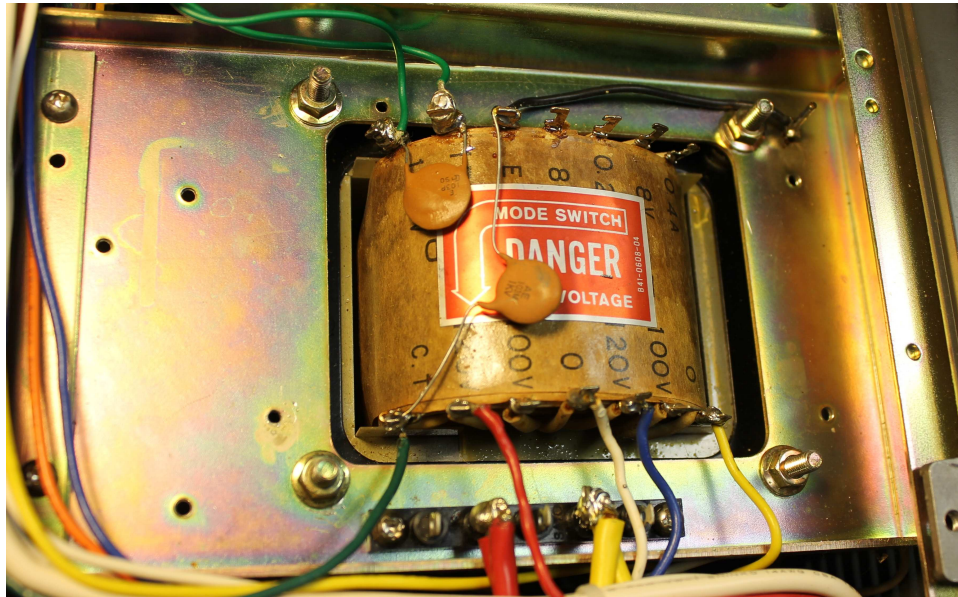

Figure 2.21: Amplifier Chassis After Zener Bias Diode Removal
- Do NOT remove either the #14 yellow wire or the #14 red wire shown in the upper portion of Figure 2.20. These two wires supply filament current to the tubes and must not be removed unless performing the filament voltage modification (not part of the TL-922 Revival kit). However, Figure 2.21 does show how the filament supply leads might appear if they were replaced during the filament voltage modification.
The filament transformer and area immediately adjacent should now appear as shown in Figure 2.21.